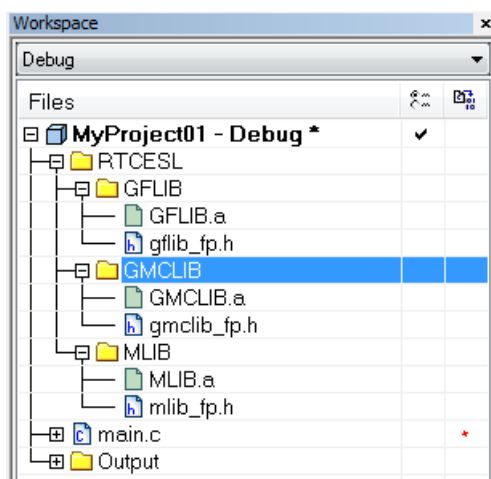

Figure 1-33. Project workspace
4. Click on the newly created node MLIB, and go to the main menu Project > Add Files... See Figure 1-33.
15. Now you will see the files added in the workspace. See Figure 1-33.